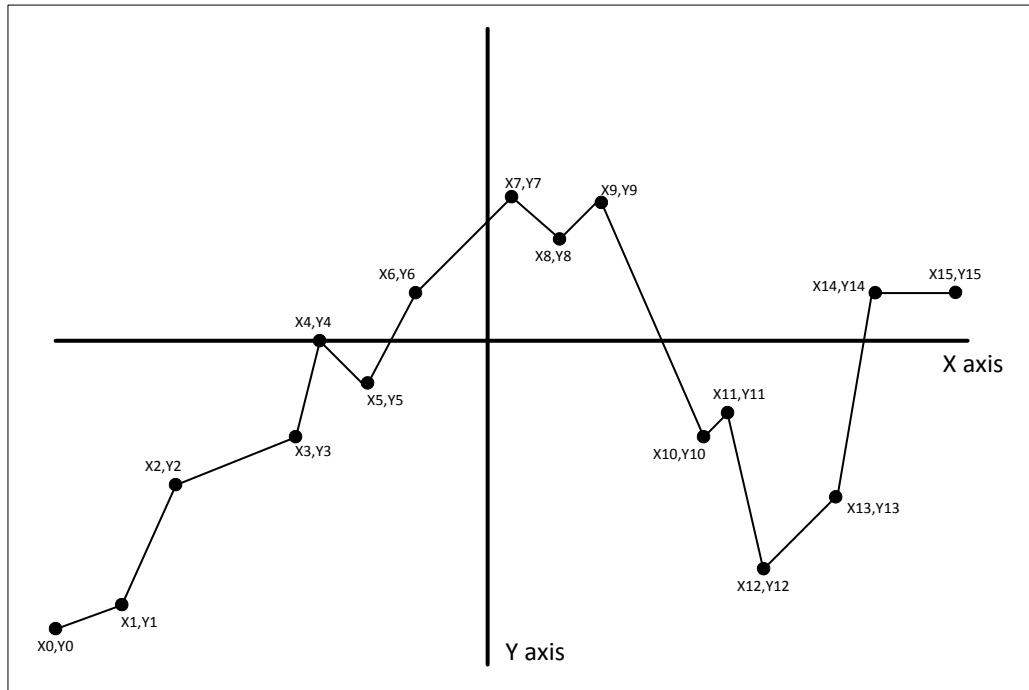

Figure 2-20. Example of a TABLE showing the sixteen (16) data points
Each of the tables consists of sixteen (16) data points, and each of the sixteen (16) data points consist of an “X” data point and a “Y” data point. Figure 2-20 shows a graphical representation of the sixteen data points in a table, with the “X” data point representing the x-axis value, and the “Y” data points representing the y-axis value.